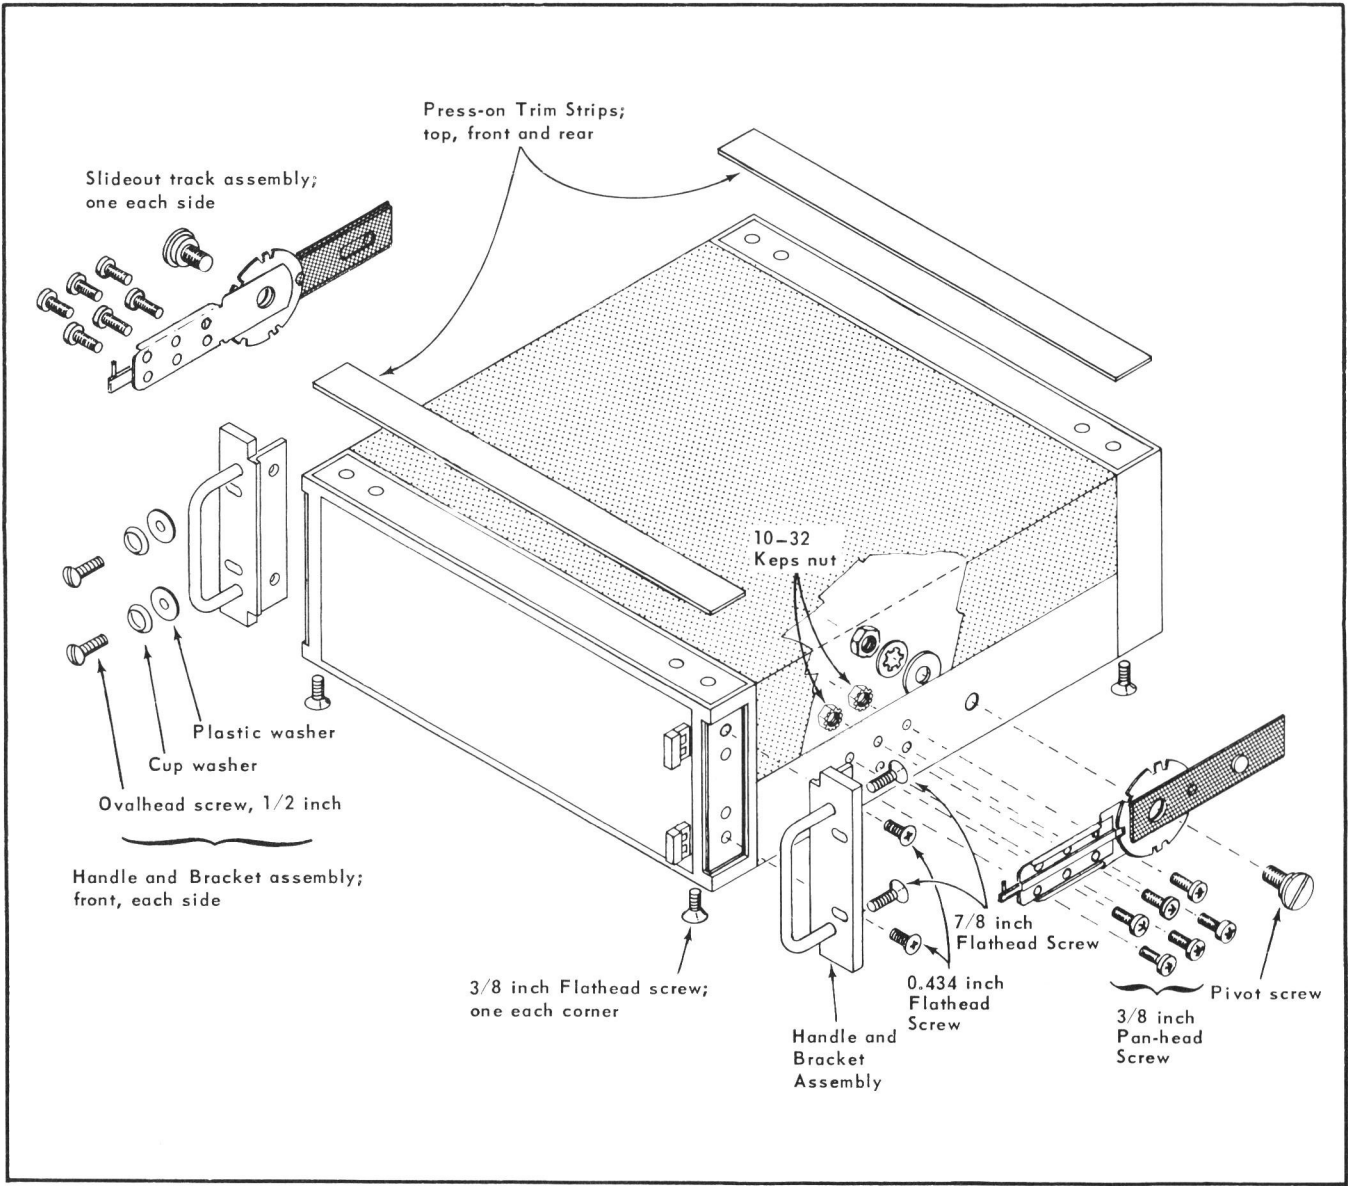
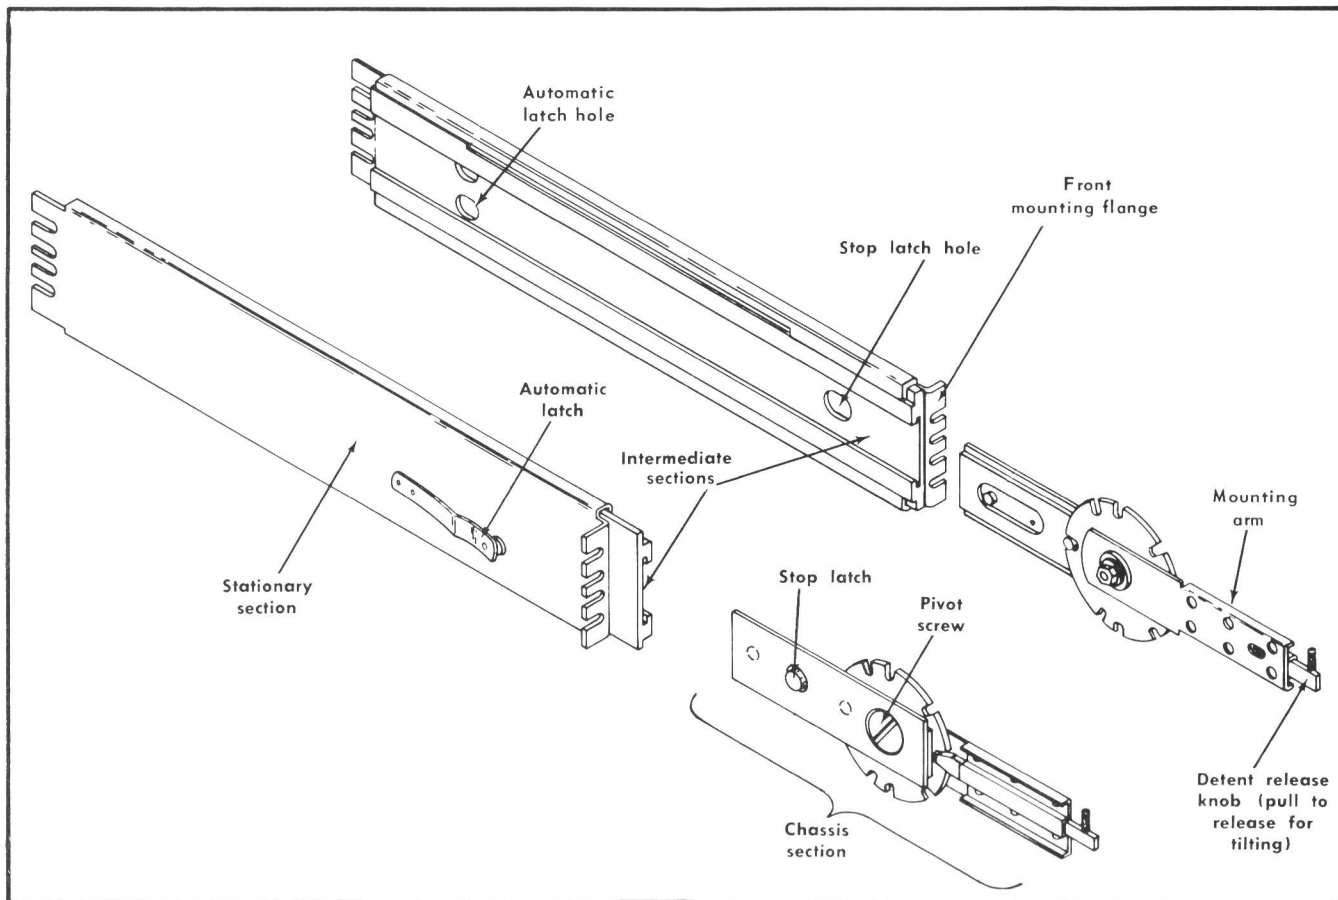

Fig. 8-1. Parts peculiar to the Type R250 chassis. See Figs. 8-4, 8-5, and 8-10 for rack attachment parts.
Fig. 8-4. Slide-out track assemblies.
Parts peculiar to the Type R250 must be removed from the Auxiliary Program Unit chassis before it can be converted to a bench-mount instrument (Type 250). These parts are shown in Fig. 8-1, and can be removed as follows:
The following parts must be added to complete the conversion. Locations of parts to be attached to the chassis are shown in Fig. 8-1. Identification of the slide-out track assembly parts is contained in Fig. 8-4.
- Remove the nut and washers from the pivot screw of the right side chassis section. The right side section can be identified by the tiltlock release knob which will point toward the top of the unit after installation. (See Figs. 8-1 and 8-6.) Hold the assembly together while removing the nut and while installing the assembly on the chassis.
- Place the assembly against the chassis, inserting the pivot screw into the hole indicated in Fig. 8-1. Replace the flat washer, lock washer and nut on the pivot screw and hand-tighten the nut. Check that the slide, the
- Fasten the mounting arm to the chassis, using six 10-32 X 3/8 PHS screws and keps nuts (see Fig. 8-1). Tighten the six nuts.
The stationary and intermediate sections of the slide-out tracks are shipped as matched pairs and should not be separated. To distinguish between the right and left stationary/intermediate assemblies, note the position of the automatic latch (see Fig. 8-4) in each assembly. The automatic latch should be located near the bottom of the assembly when it is installed in the rack.